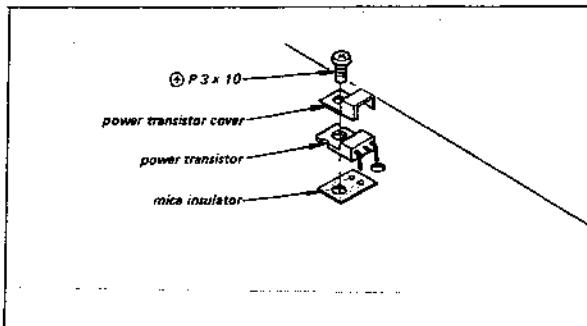

Fig. 2-8. Power transistor replacement
2. Remove the screw (④ P 3 x 10) securing the power transistor to the heat sink as shown in Fig. 2-8.